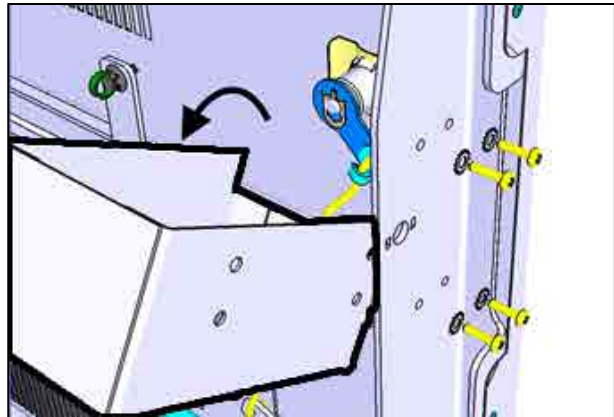

FIGURE 3
3. Remove and reserve the box and mounting hardware for reassembly (Fig. 3)